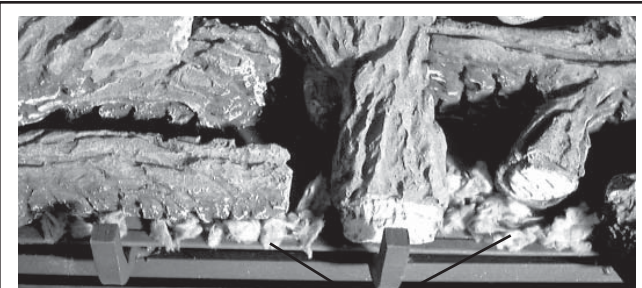

Figure 34
7. Place the glowing embers on the burner as shown in Figure 34.
IMPORTANT: The quantity and placement of the ember material can affect stove performance therefore it is very important that it be placed as shown in Figure 34.
- Distribute the pieces over the top of the front burner area in front of the forward logs (see Figure 34).